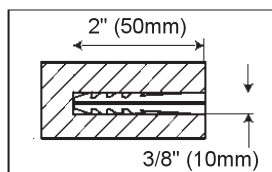
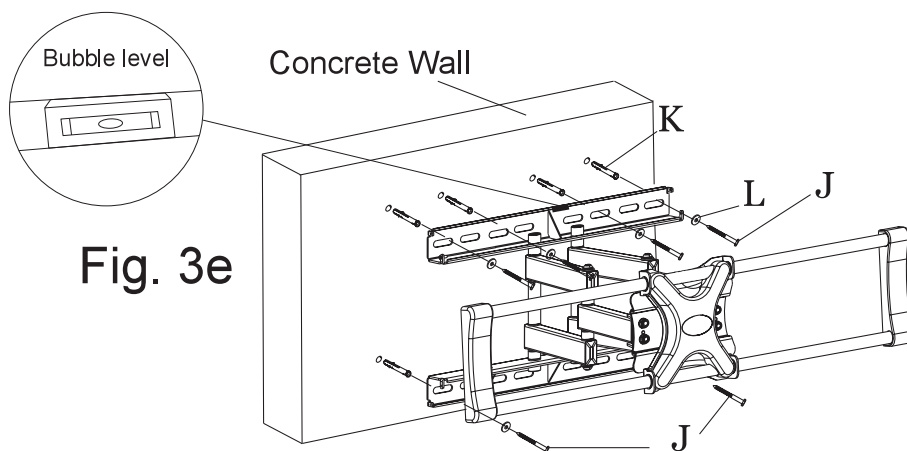

Fig. 3d
Fig. 3e
2. Use 3/8" (10mm) drill bit to pre-drill six holes at least 2" inches (50mm) deep (Fig 3d) at the marked locations.
3. Insert a wall anchor (K) into each pre-drilled hole and lightly tap it with a hammer until the wall anchor is flush with the wall.
4. Use a wrench, the six long bolts (J), and washers (L) to attach the wall mount to the wall with the wall anchors (Fig. 3e).
5. Use the magnet level placed on the front of the mounting plate to level the wall mount (Fig 3e), repositioning as necessary, then securely tighten the bolts.